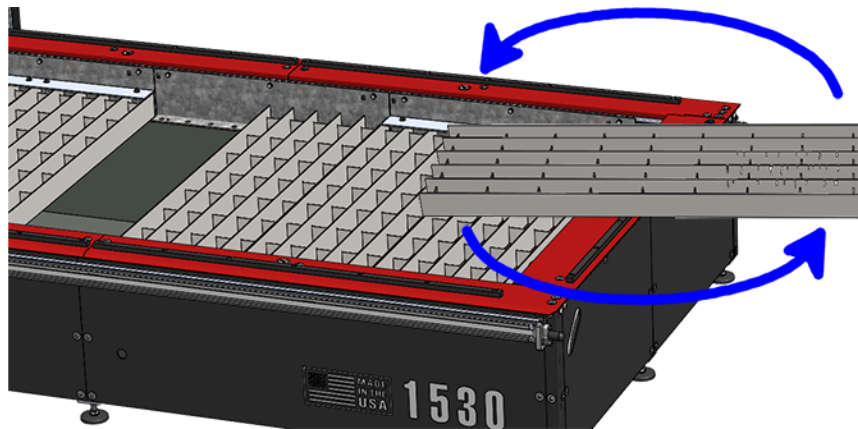
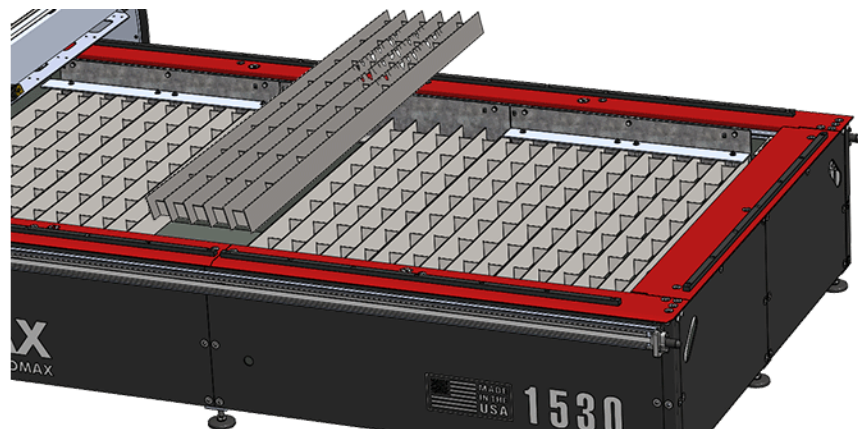

Figure 8
Figure 9
3. If a **slat grate's** wear is mostly on one end, rotate the **slat grate** end to end (Figure 8) and (Figure 9).